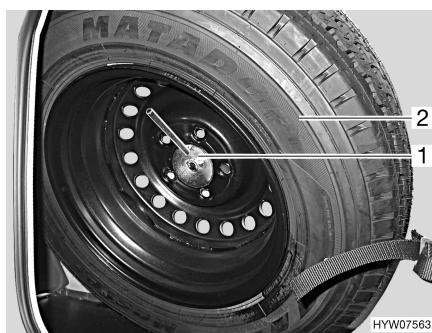

Fig. 99 Spare wheel support
The spare wheel support is fitted as standard in the gas bottle compartment. The spare wheel (Fig. 99,2) is available for a surcharge.
- Undo bolt (Fig. 99,1).
- Remove the spare wheel (Fig. 99,2).